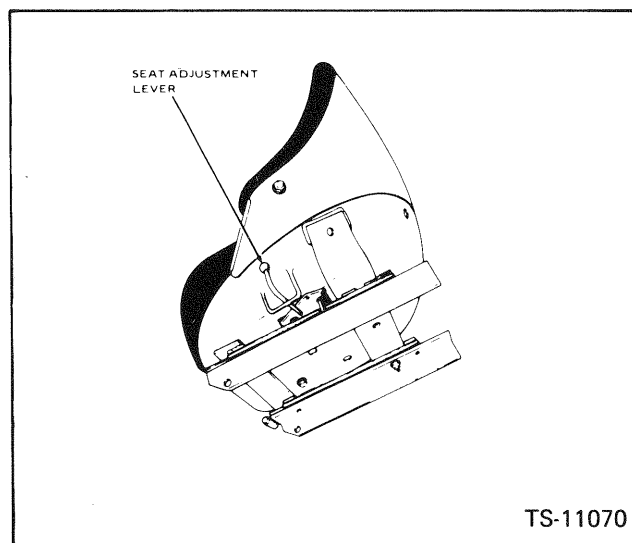

Fig. 2-2 Operators Seat Adjust Lever
30. **Seat Adjustment Lever** — The operator's seat can be shifted forward or backwards to suit the individual, by moving the lever on the left hand side of the seat forward and shifting the seat to the desired position. Fig. 2-2. An additional adjustment in the height of the seat is offered. This can be done by removing the seat bracket mounting bolts and raising or lowering the seat to the desired position. Machines equipped with a rotating seat, have a hand screw located at the front of the seat to lock-in the desired position. Oiling of the release mechanism, track assemblies and pivot points will keep them operating freely.